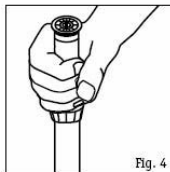

Fig. 4
2. Ratchet riser (Fig. 4) to align the raised dot on top of each nozzle with what will be the right edge of the spray arc (looking from "behind" the sprinkler).